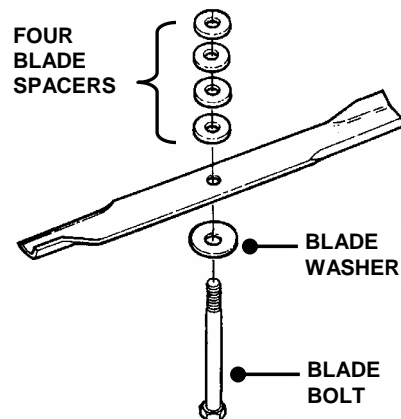

FIGURE 4.3
2. Remove blade by removing the nut from the blade bolt. Allow the blade bolt, blade washer, blade and four blade spacers to drop down out of the spindle housing. See Figure 4.3.
5. Install blade paying close attention to the assembly sequence shown in Figure 4.3.
3. Install new blade following assembly sequence carefully. See Figure 4.3.